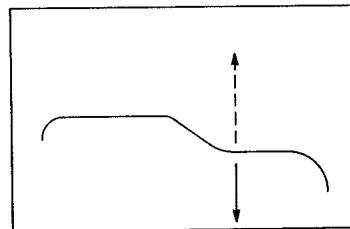

Fig. 2.10 Frequency Control
- (k) Set 'Q' control to approximate middle position (5 turns from fully clockwise) and 'depth' to maximum. Adjust 'frequency' control until the dip filter is set to the same frequency as the peak resonance (Fig. 2.10).